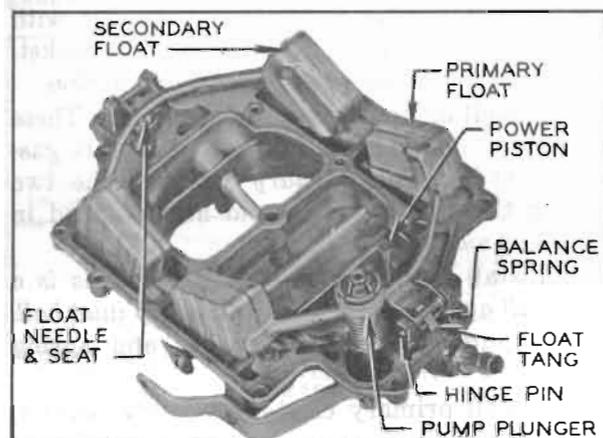

Figure 3-91—Air Horn Parts
5. Remove all air horn screws, then carefully lift air horn straight up from main body to avoid damaging floats, pump plunger, and vacuum power piston which are attached to air horn. See figure 3-91.
pump (secondary). Then remove fuel inlet strainer. See figure 3-91.